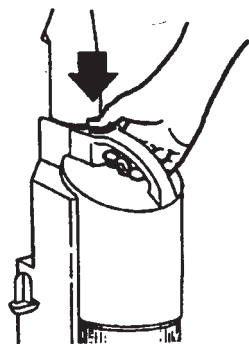

Figure 12a
7. Press down on the Release Button and tilt away the Collection Bin. (See Figure 12a.)